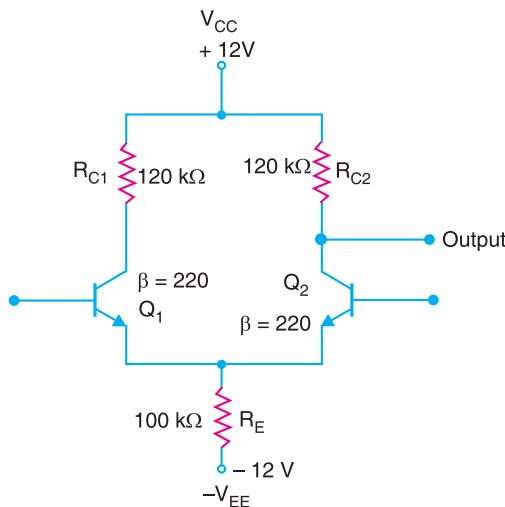

Fig. 25.32
**Example 25.15.** For the circuit shown in Fig. 25.32, find (i) input impedance (ii) differential voltage gain.